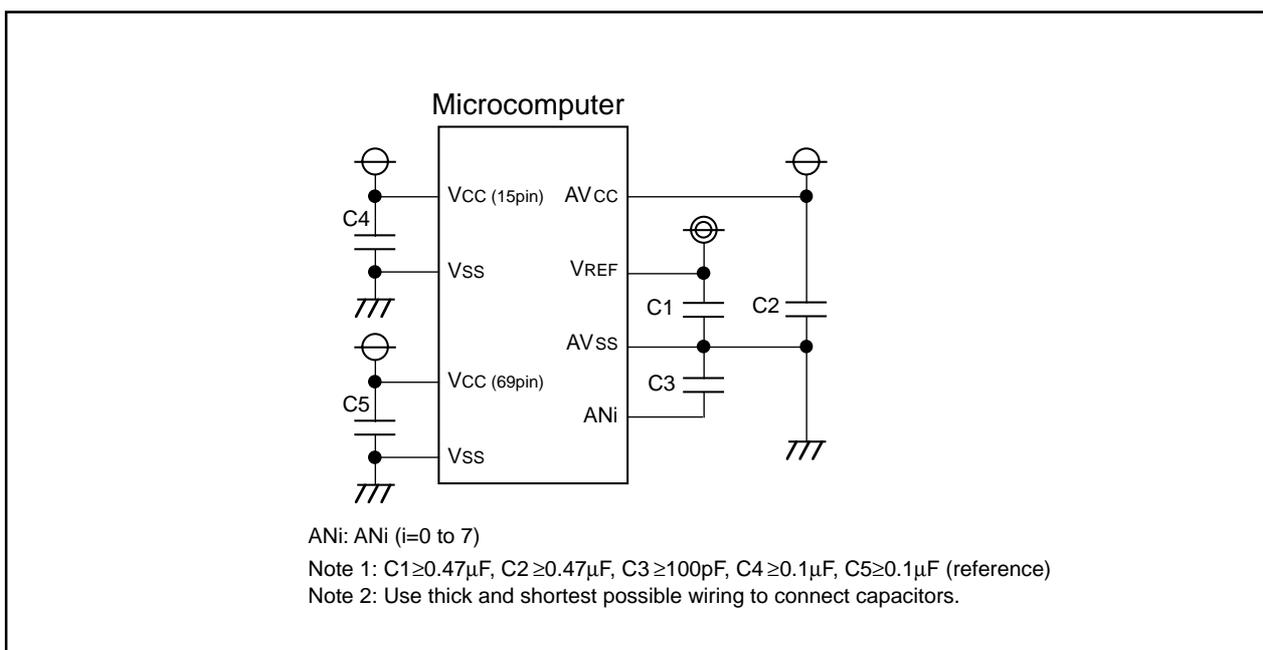

Figure 2.12.11. Vcc, Vss, AVcc, AVss, Vref and AN_i Connection
- (1) Make sure the port direction bits for those pins that are used as analog inputs are set to "0" (input mode). Also, if the ADCON0 register's TGR bit = 1 (external trigger), make sure the port direction bit for the ADTRG pin is set to "0" (input mode).
- (2) When using key input interrupts, do not use any of the four AN4 to AN7 pins as analog inputs. (A key input interrupt request is generated when the A-D input voltage goes low.)
- (3) To prevent noise-induced device malfunction or latchup, as well as to reduce conversion errors, insert capacitors between the AVCC, VREF, and analog input pins (AN_i (i=0 to 7)) each and the AVSS pin. Similarly, insert a capacitor between the VCC pin and the VSS pin. Figure 2.12.11 is an example connection of each pin.
- (4) If the CPU reads the AD_i register (i = 0 to 7) at the same time the conversion result is stored in the AD_i register after completion of A-D conversion, an incorrect value may be stored in the AD_i register. This problem occurs when a divide-by-n clock derived from the main clock or a subclock is selected for CPU clock.